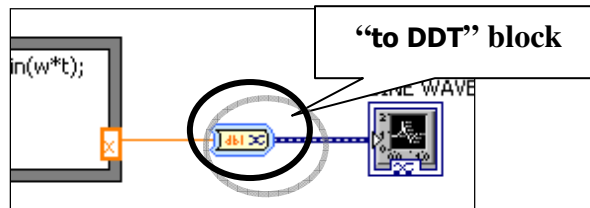

Figure 22. Insertion of a “to DDT” block which converts a single stream of data to dynamic data.
- Add a “Change to Dynamic Data” block. (see Figure 22)
“to DDT” block in Figure 22.